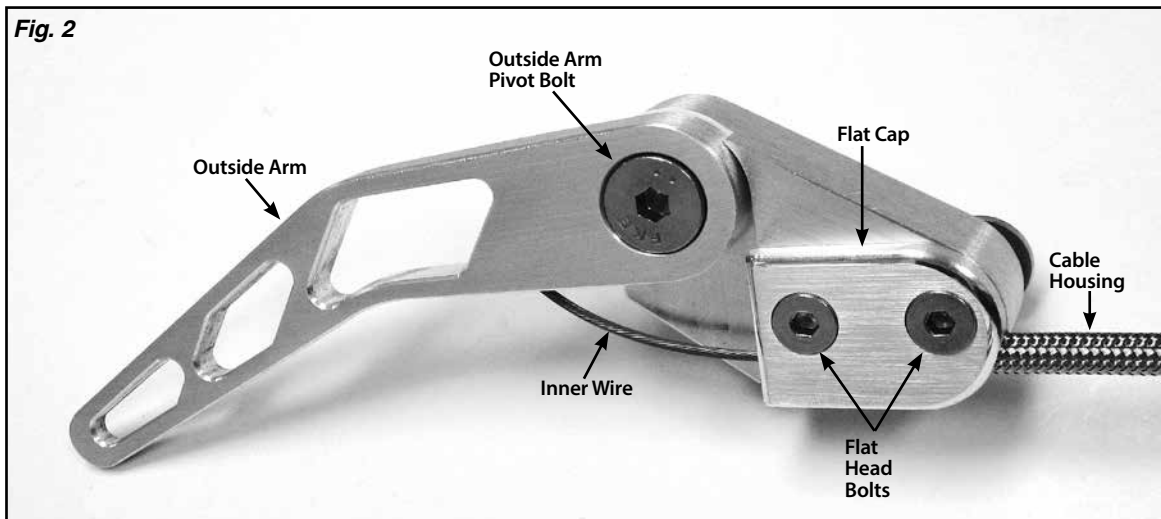

Fig. 2
**Step 2: ALL:** Pull the outside arm back as far as it will go. Pull the inner wire out of the cable housing, and then pull it out of the outside arm. **Fig. 2**
If you need to mount the release handle assembly more than 24" from the hole in the firewall, a custom length inner wire and cable housing will be required. If the release handle assembly is to be mounted close to the firewall and the cable housing is too long, it may be cut to fit. Loosen the two flat head bolts that attach the flat cap to the release handle assembly and pull out the cable housing (**Fig. 2**).
**Step 8: ALL:** Mount the release handle assembly at the spot you decided on earlier, using the two 1/4"-20 x 5/8" hex head bolts with flat washers (supplied), **Fig. 5**. If the release handle assembly is not at the correct angle, do not twist the cable housing! Loosen the two flat head bolts that attach the flat cap to the release handle assembly (**Fig. 2**), twist the release handle assembly to the correct orientation, and tighten the flat head bolts.